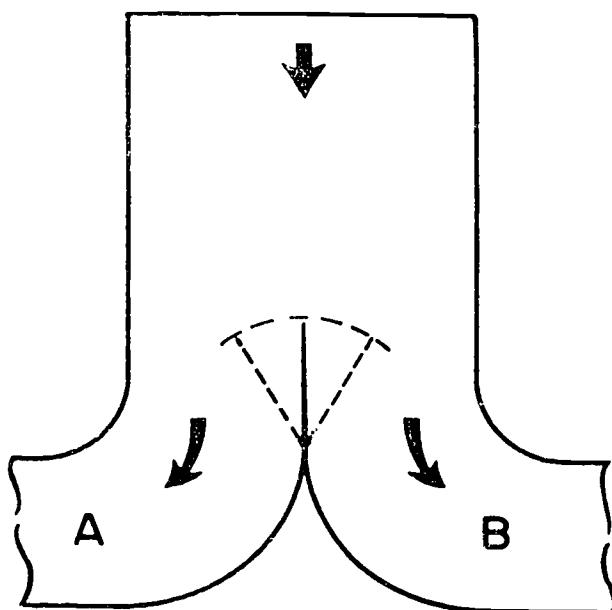

Figure 3-7. Deflecting damper in a duct system.
**Deflecting damper.** A deflecting damper, illustrated in figure 3-7, is sometimes called a splitter damper. It is a single blade hinged at one edge, and can be positioned with an accessible control handle. You install this directional control for airflow on the outside of the duct so that the damper can be
width of the blade varies according to the amount of airflow to be deflected. Usually, the width of the deflecting dampers is approximately 3/4 the width of the branch line, as shown in figure 3-7.